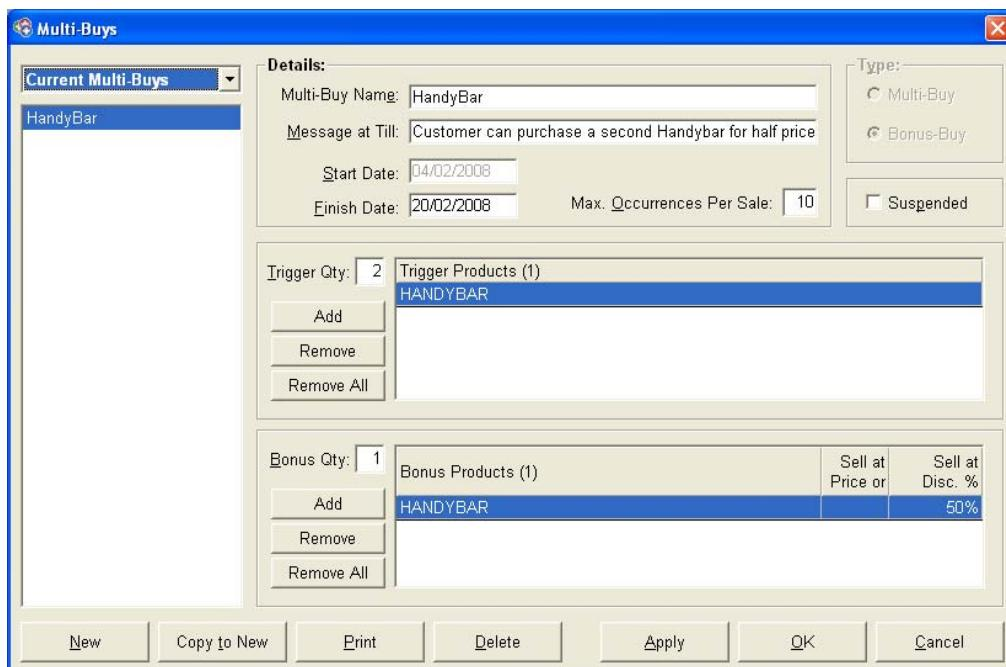

Figure 204
2. This will display the Multi-Buys setup window (see Figure 204).